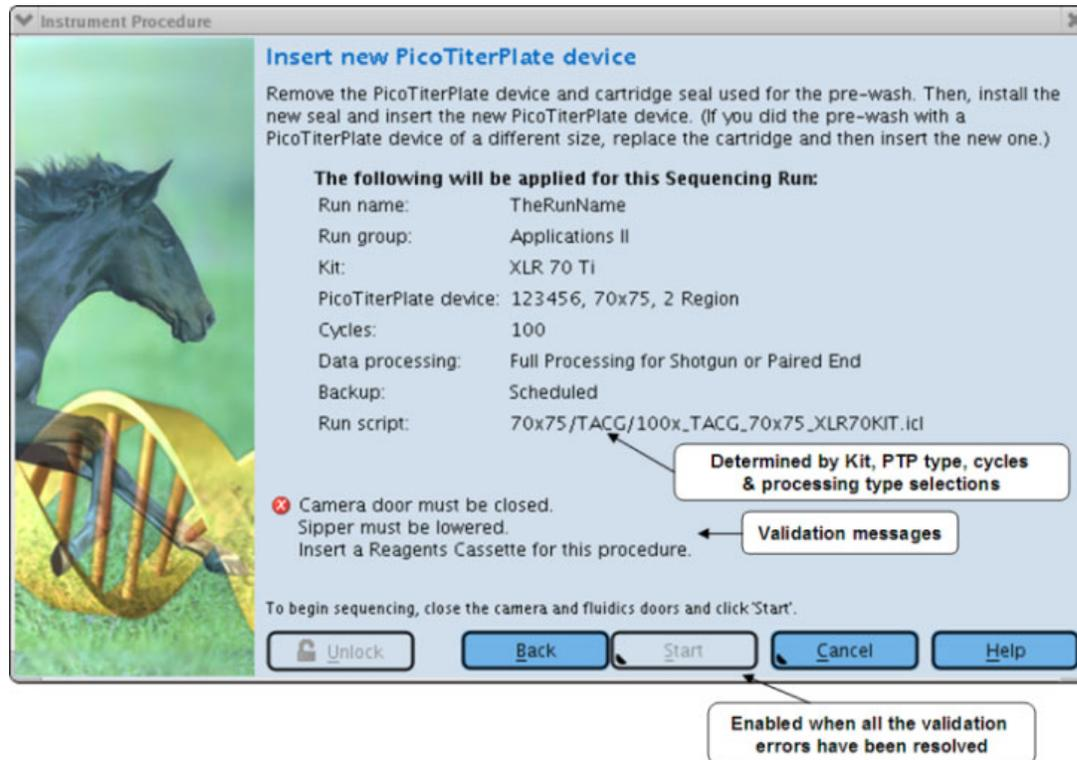

Figure 18: GS Sequencer Run Wizard – ‘Insert new PicoTiterPlate device’ window
10. **Insert new PicoTiterPlate Device** (Figure 18) – The final window of the Run Wizard provides a summary of the sequencing Run data entered and displays the name of the Run script (provided with the system) which will be used to carry out the Run. If any of the Run data is incorrect, the back button can be used to navigate to previous windows and incorrect it. Once all the necessary data has been entered and the PTP device has been inserted (as described in the *Sequencing Method Manual*), the ‘Start’ button is activated and the Genome Sequencer FLX Instrument is ready to begin a new sequencing Run. **Clicking on the Start button will initiate the sequencing Run.**